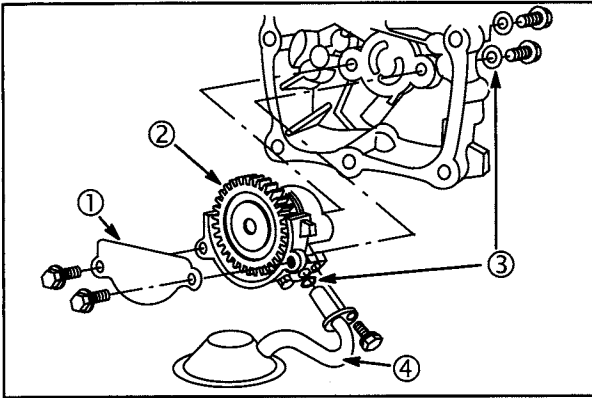
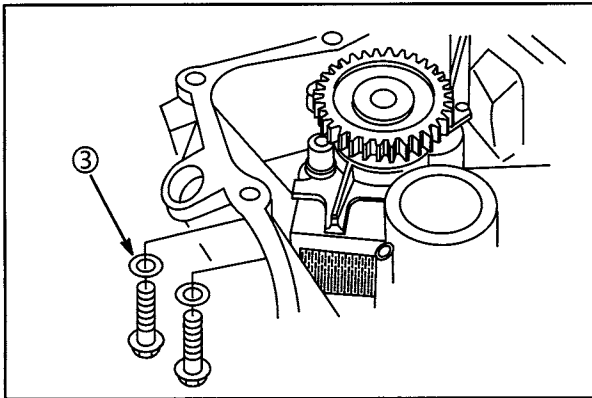

Fig. 24
Fig. 25
1. Remove gear baffle (1) and oil pump (2) with pickup (4) from crankcase cover (horizontal crankshaft engines), **Fig. 24**, or sump (vertical crankshaft engines), **Fig. 25**.
**NOTE:** Discard all O-rings (3).